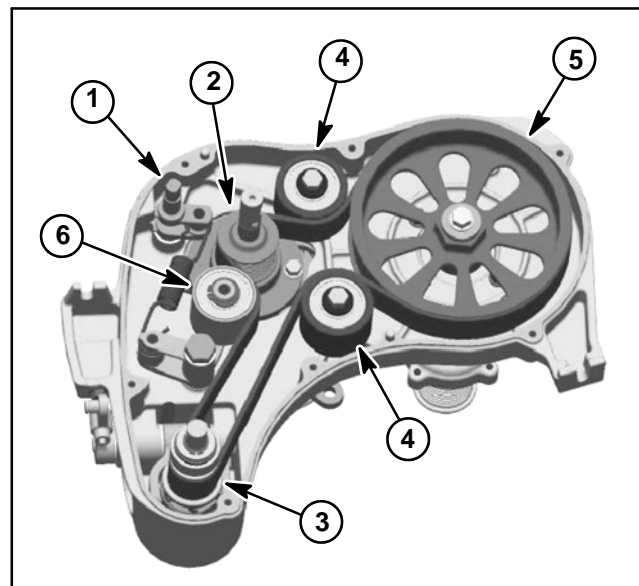
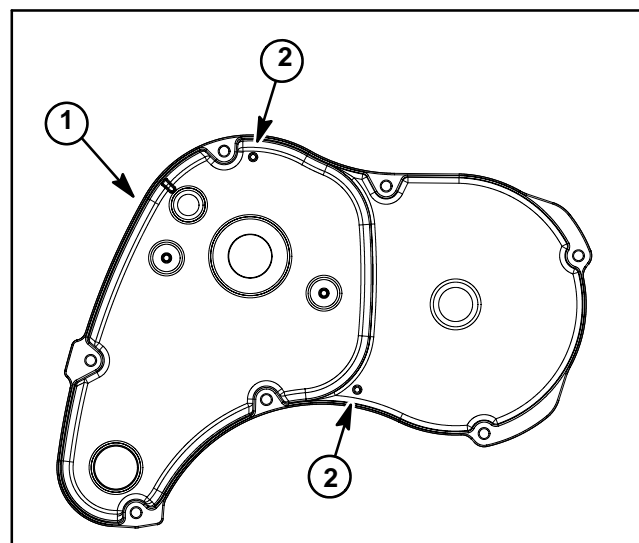

Figure 32
Figure 33
7. Remove seven (7) washer head screws that secure transmission cover to transmission. Carefully remove cover from transmission. Remove and discard gasket (item 3).
8. Make sure that wave washer (item 4) is pressed into reel drive shaft bore of transmission cover.
9. Note transmission belt routing for assembly purposes (Fig. 32).
1. Install new transmission belt onto pulleys in transmission. Make sure that belt is correctly routed around drive and idler pulleys (Fig. 32).
2. Make sure that wave washer (item 4) is pressed into bearing bores of transmission cover. Also, make sure that two (2) dowel pins are pressed into bores in the transmission housing.
3. Position new gasket to transmission assembly. Align gasket to two (2) dowel pins in transmission housing.
4. Install transmission cover. If necessary, use a rubber mallet at dowel locations (Fig. 33) to seat cover to transmission.
5. Install seven (7) washer head screws to secure cover to transmission. Tighten screws as follows:
7. Install key (item 6) to transmission shaft. Apply anti-seize lubricant to top of key.
8. Slide coupler (item 11) onto transmission shaft until it is flush with the end of the shaft. Secure coupler with two (2) set screws (item 12). Torque set screws from **60 to 65 in-lb (6.8 to 7.3 N-m)**.
9. Secure coupler guard (item 10) to transmission.